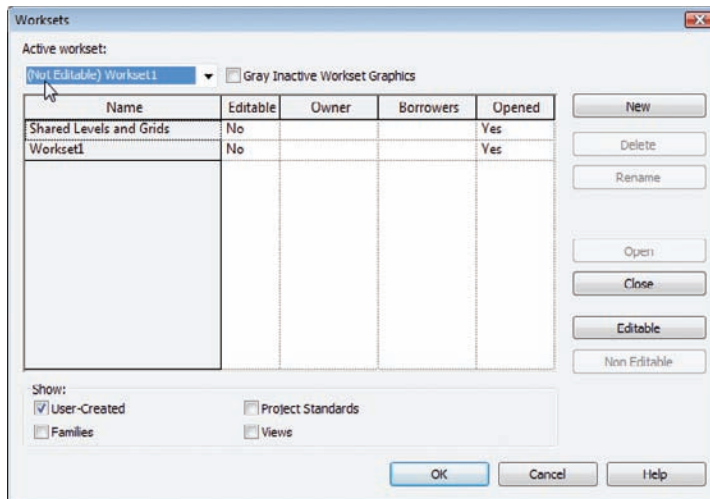

FIGURE 22.8 Releasing the worksets by clicking No for Editable
9. Change both worksets by choosing No for the Editable column (see Figure 22.8).